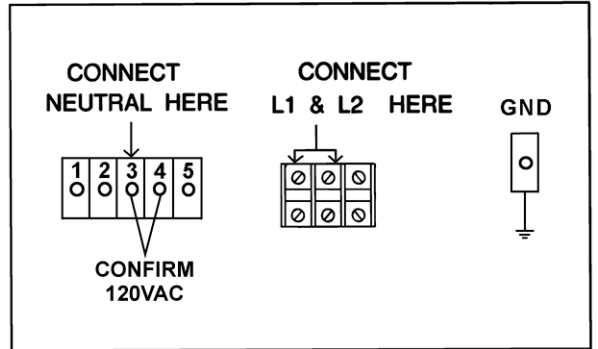
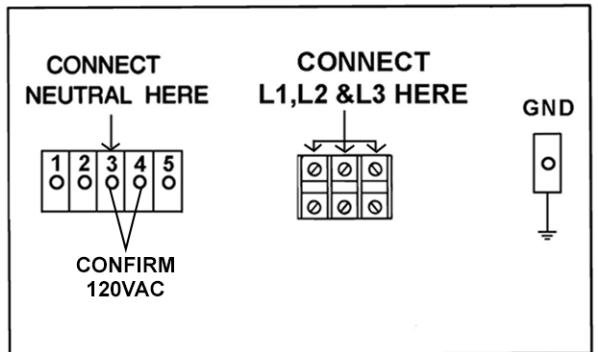

Fig. 22
Fig. 23
1. Connect electrical supply per the wiring diagram on the component box cover or back side of lower front trim, **ensuring the neutral wire is connected at terminal #3 on terminal strip (Fig. 22 , Fig. 23).**